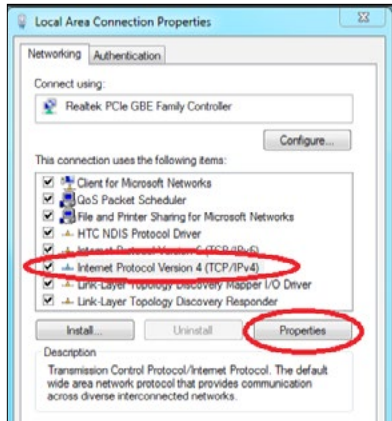

Figure 31: Local Area Connection Properties Window
5.) In the *Connection Items List Box* (**Figure 31**), be sure the Internet Protocol Version (TCP/IPv4) is checked. Click on Internet Protocol (TCP/IP v4) to highlight it and then click **<Properties>**. The *Internet Protocol Properties Window* will appear.